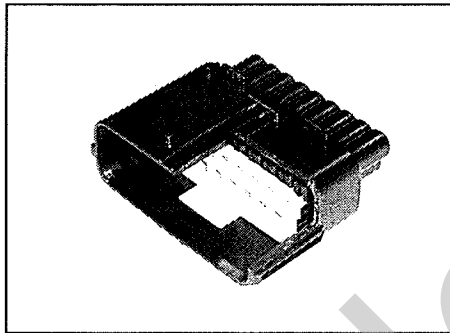

Figure 10:
- a) First assure that the orientation of the male terminal is correct and that the front holder is in pre-set position (figure 10). If this is not the case, please read section 5.1.1 to move the front holder from set to pre-set position.